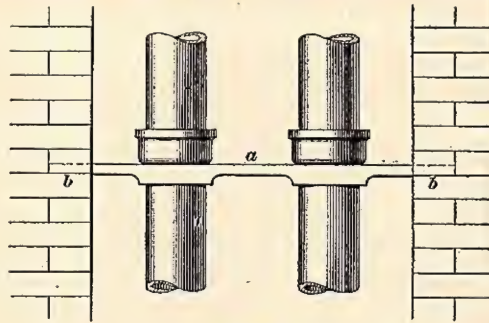

FIG. 36
54. If the pipes stand in a chase, or groove, in the wall, they may be fastened by means of clamps, or **pipe rests**, *a*, which are secured in notches *b, b* cut in the wall, as shown in Fig. 36.